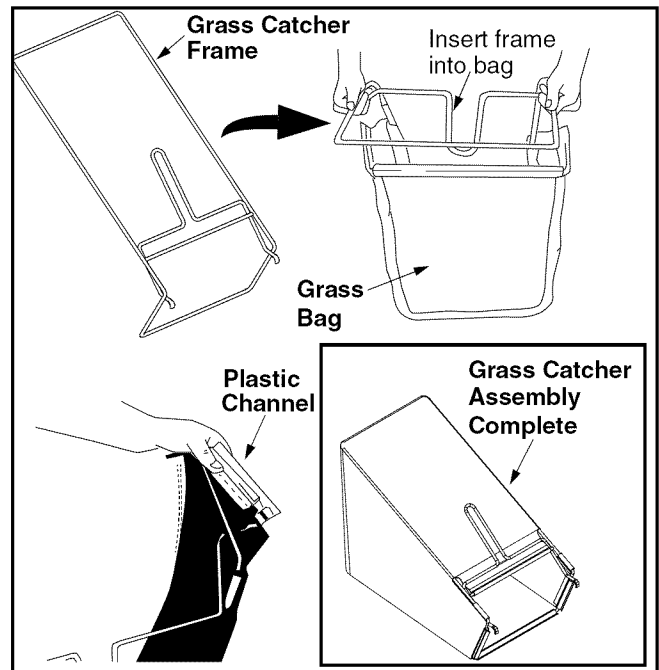

Figure 6
- Insert frame into grass bag with the black plastic side on the bottom of bag. See Figure 6.
- Slip the openings in the side of the plastic channel on bag over the hooks on the grass catcher frame. Secure bag to the frame by working the six plastic channels on bag over frame. All of the plastic channels except the center top of the bag attach from the outside of bag. The center top of the bag attaches from inside the bag. See Figure 6.